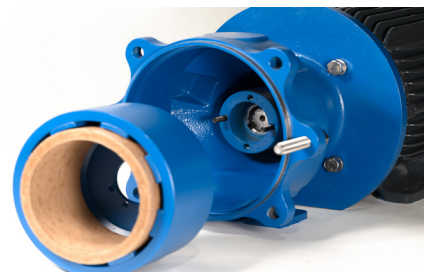

figure 5
10. Using the threaded studs in the shaft adapter as a guide, slide the magnet hub onto the shaft adapter. The magnet hub and shaft adapter are held in close tolerance to one another. Use two M8-1.25 hex head bolts to draw the hub onto the adapter as necessary. See figure 5. Avoid hitting the outer edge of the magnet hub as impact can damage the glue bond between the magnet and the hub.